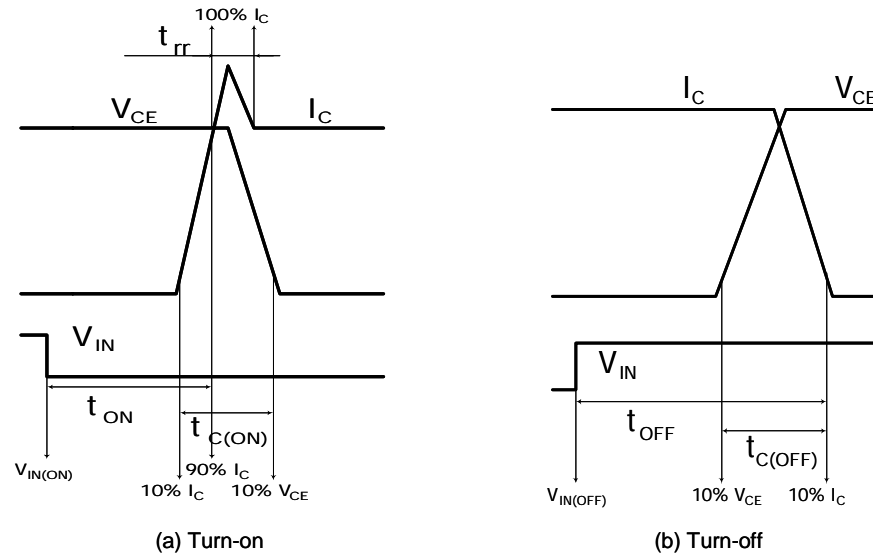

Fig 5. Switching Time Definition
3. t_{ON} and t_{OFF} include the propagation delay time of the internal drive IC. $t_{C(ON)}$ and $t_{C(OFF)}$ are the switching time of IGBT itself under the given gate driving condition internally. For the detailed information, please see Fig. 5.